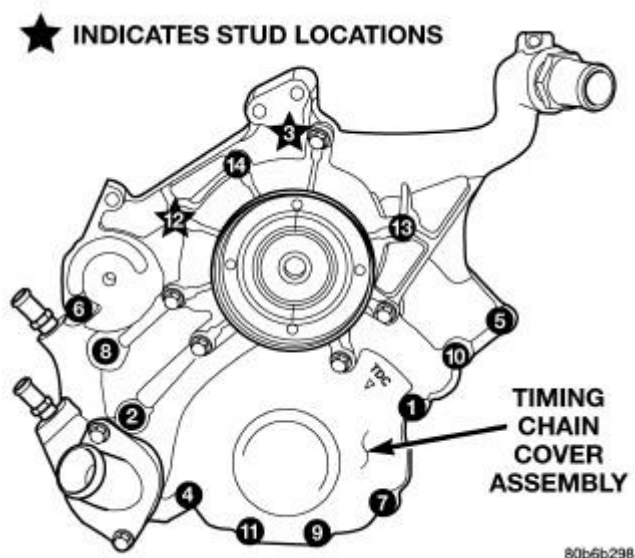

Fig. 84: Timing Chain Cover Fasteners
4. Install cover. Tighten flange head fasteners in sequence as shown in **Fig. 84** to 58 N.m (43 ft. lbs.).